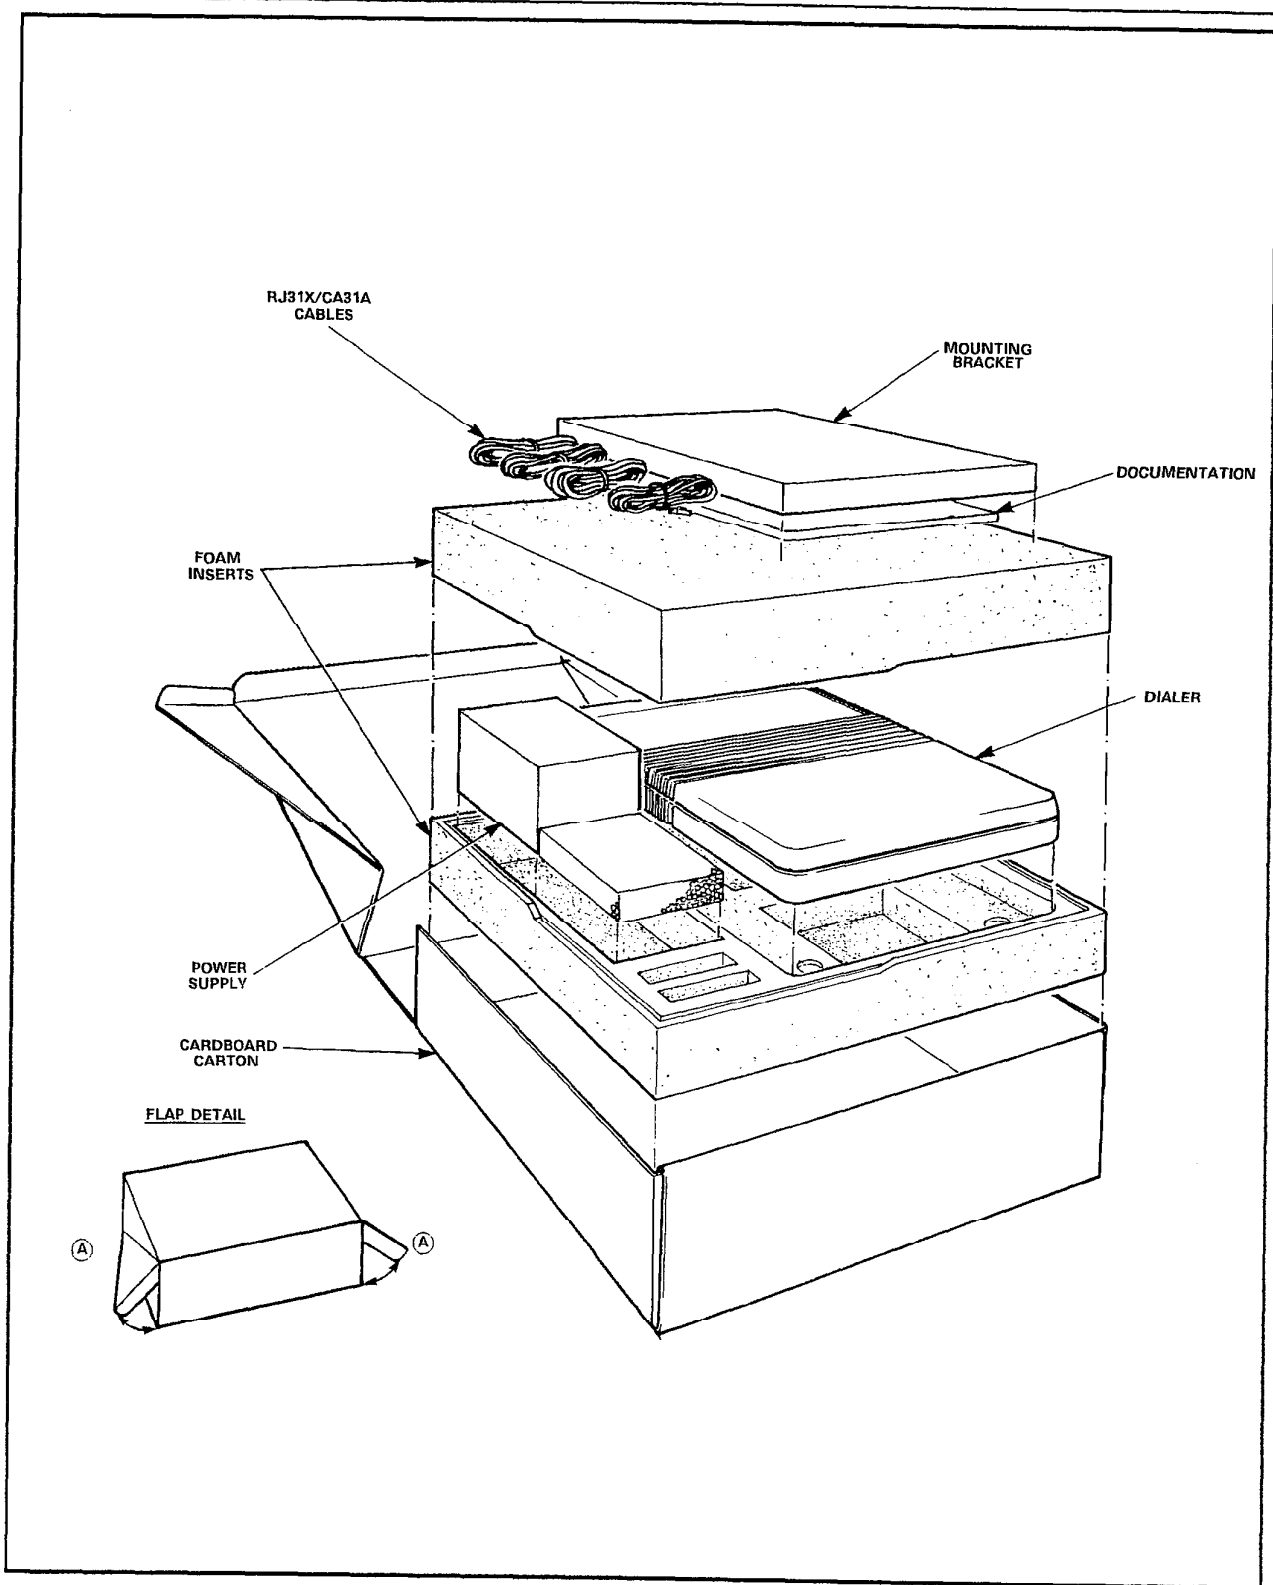

Figure 4-1, Equipment Unpacking and Repacking
**4.03** The procedure below lists steps to take when unpacking the equipment (refer to Figures 4-1 and 4-2):
**4.04** If an item is found to be defective or damaged and is to be returned to the vendor, it should be tagged and packaged to prevent damage. If units are to be shipped from one location to another, these units should also be packaged in such a manner as to prevent damage. Figure 4-1 shows how the equipment was originally packed. This method of packaging should be followed as closely as possible.
**4.11** Connections to the Dialer are made at the Connector Panel located along the bottom edge of the housing. Figure 4-1 illustrates the connection panel. The steps below outline the connection procedure: